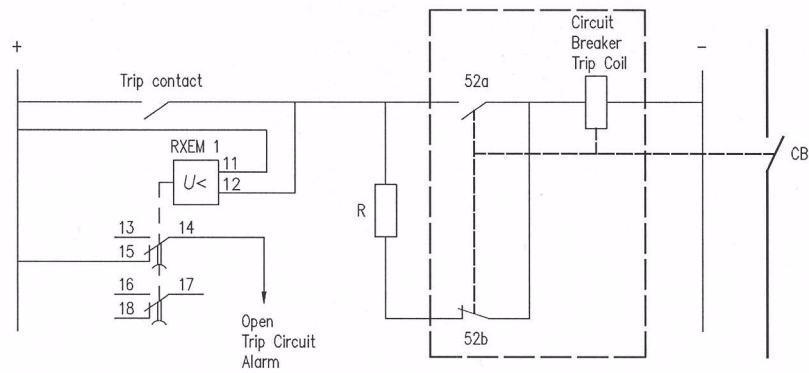

Fig. 2 RXEM 1, circuit A, used as Trip Circuit Supervision Relay.
A typical application is continuous supervision of a circuit breaker trip circuit, including the breaker coil, in transmission and sub-transmission substations, see Fig. 2.
**Table 9: Resistor R in Trip Circuit Supervision applications, see Fig. 2.**